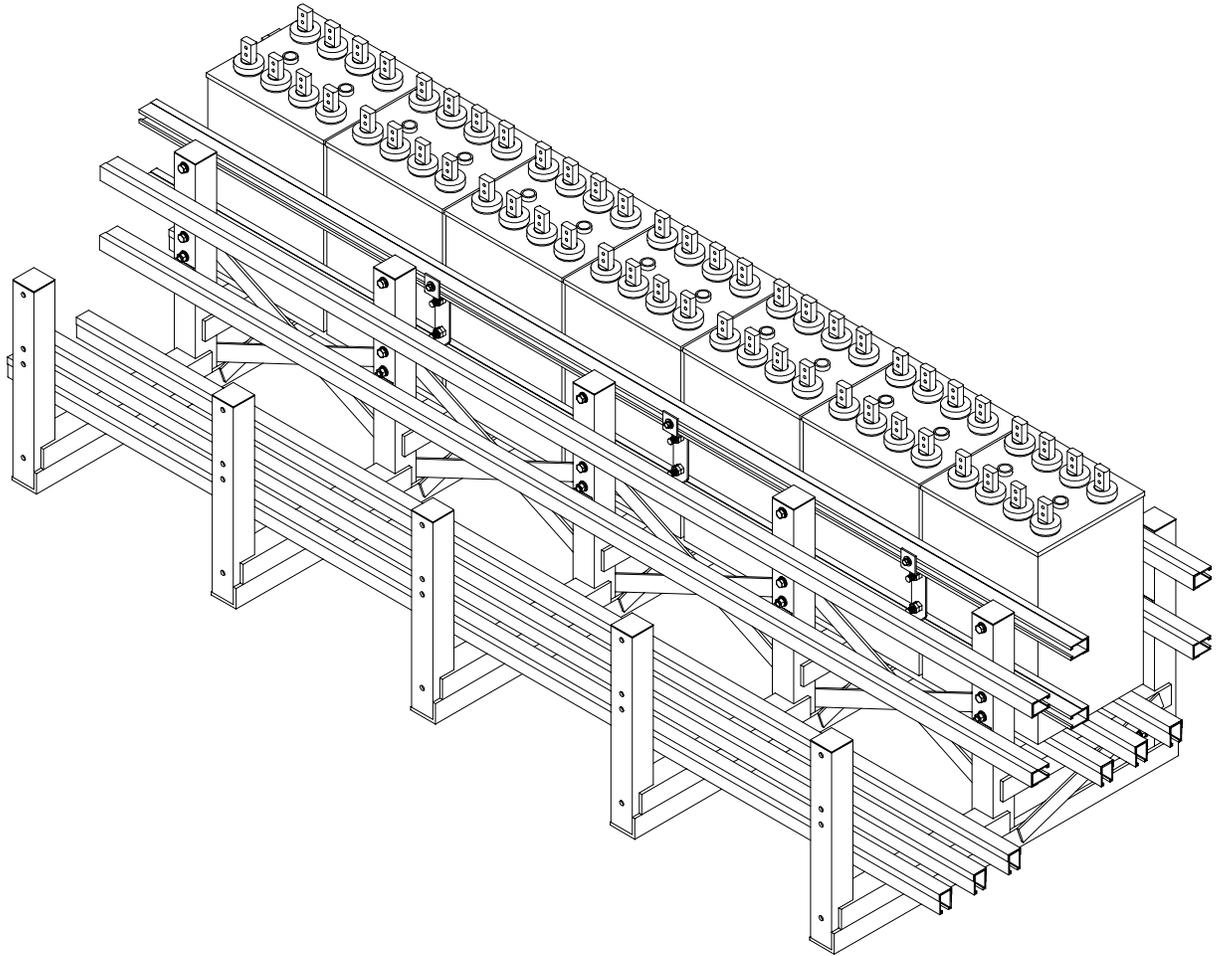

Figure 7.5e
- Install cells on next step/tier following the methods as instructed for the first tier/step. See Figures 7.5e through 7.5k.